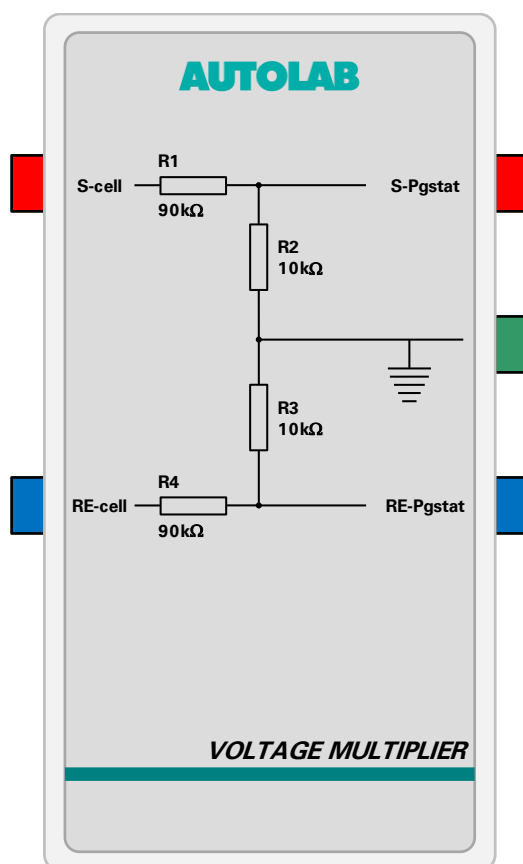

Figure 2 – The Voltage Multiplier
1. The Voltage Multiplier box (see Figure 2)